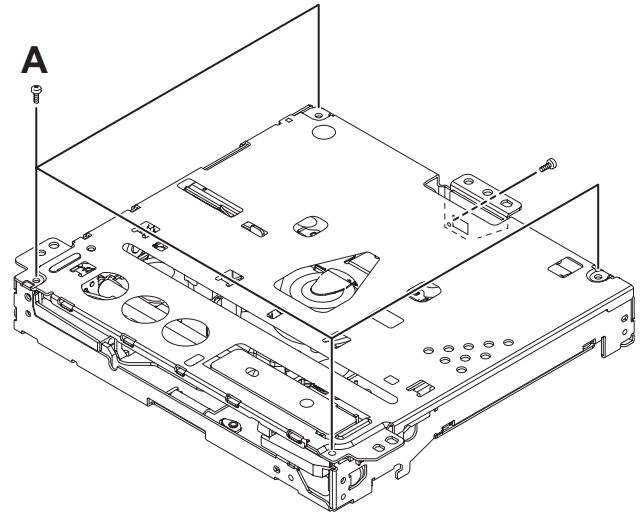

Fig.3
- (4) Remove the five screws **A** attaching the Top cover assembly. (See Fig.3)